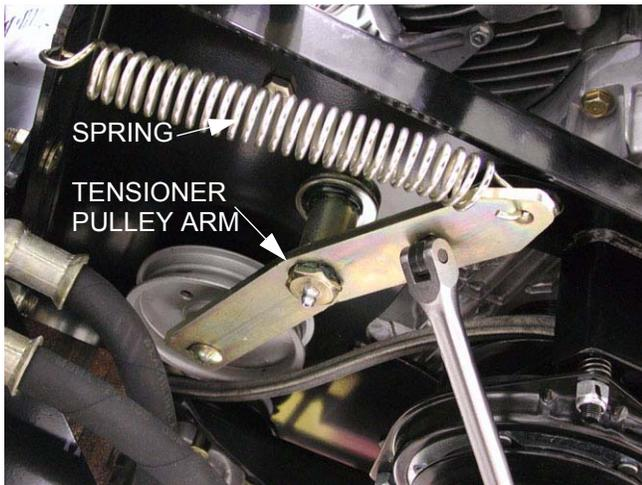

Figure 5.7
- 5.7. Use a 3/8" breaker bar to move the belt tensioner pulley arm, slipping the belt off of the pulley. See Figure 5.7.